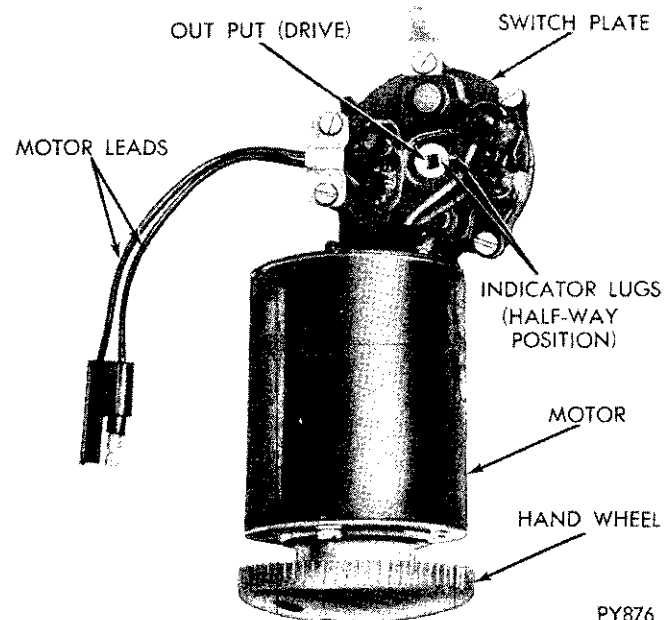

Fig. 2—Manually Aligning Indicator Lugs
(2) Rotate the motor hand wheel clockwise if doors are closed; or counterclockwise if doors are open; until headlamp doors are at the halfway open position (indicator lug on motor switch plate and lug on gear near rectangular hole are in alignment Fig. 2). (Imperial only). On Chrysler 300, rotate door to full open position in order to remove door.
- (1) Position door in grille opening, align crank assembly holes and insert crank.
- (2) Align idler pins holes and install idler pin, (Imperial only).
- (3) Install retainer on crank.
- (4) Install screw on side of door, attaching the crank assembly to the door.
- (5) While holding door in open position, slide spring into position on crank.
- (6) Wind spring up approximately 180° and hook in hole (Chrysler) or on the upper rear corner of the housing (Imperial). Check that spring preloads door in open position.
- (7) Position and fully seat torsion bar in slotted area of crank. (Check that the motor is in halfway open position, Fig. 2).
- (8) Compress and position clip over crank and torsion bar.
- (9) Install headlamp sealed beam units and connect battery ground strap.
- (1) Disconnect battery ground strap.
- (2) Disconnect motor leads including ground wire from harness (Fig. 2).
- (3) Rotate the hand wheel on the motor clockwise if doors are closed, or counterclockwise if doors are open until headlamp doors are at the halfway open position, (Fig. 2).